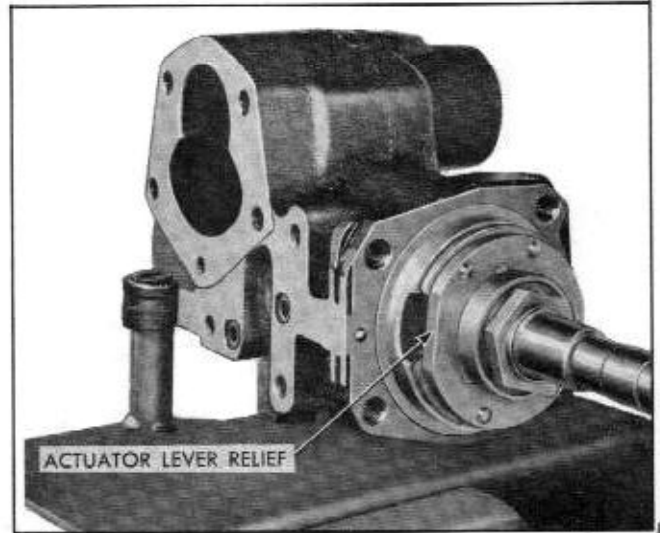

Fig. 9-59 Actuator Lever Relief Aligned on Adapter
3. Align actuator lever relief on adapter with control valve mounting face on housing (Fig. 9-59).